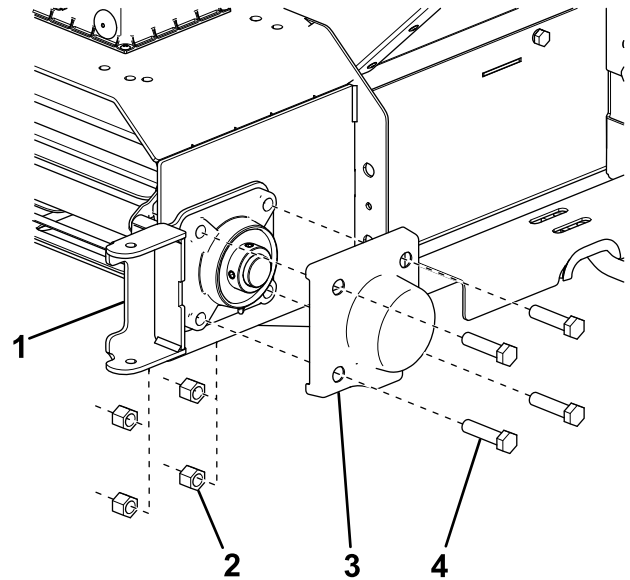

Figure 17
- Remove and discard the 4 bolts and nuts securing the right spinner-assembly pin lock and bearing cover to the pintle chain assembly (Figure 17).